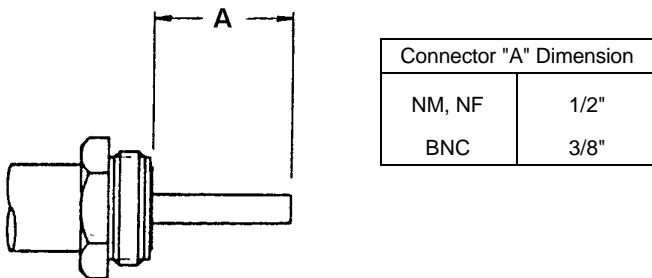

Figure 7.
10. Remove the exposed foam dielectric from the cable center conductor with a knife. All foam must be scraped completely from the center conductor and trimmed flush to the flared end. See Figure 7.